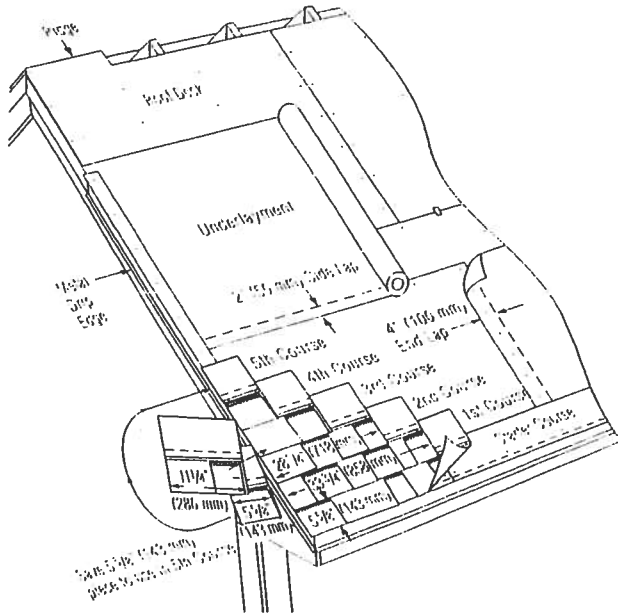

Figure 15-12: Applying the first 5 courses of Metric dimension.
1ST COURSE: Apply a full shingle at the lower left corner of the roof. Make the lower edge and left edge lie flush with the edges of the starter course (Figure 15-12).
1. Cut $5\frac{5}{8}$ " off the left end of the first shingle and save this piece for later use. Apply the $33\frac{1}{8}$ " ($34\frac{1}{8}$ " for Landmark TL) long piece over and above the first-course shingle. Leave the bottom $5\frac{5}{8}$ " tab portion of the first-course shingle exposed (Figure 15-12).